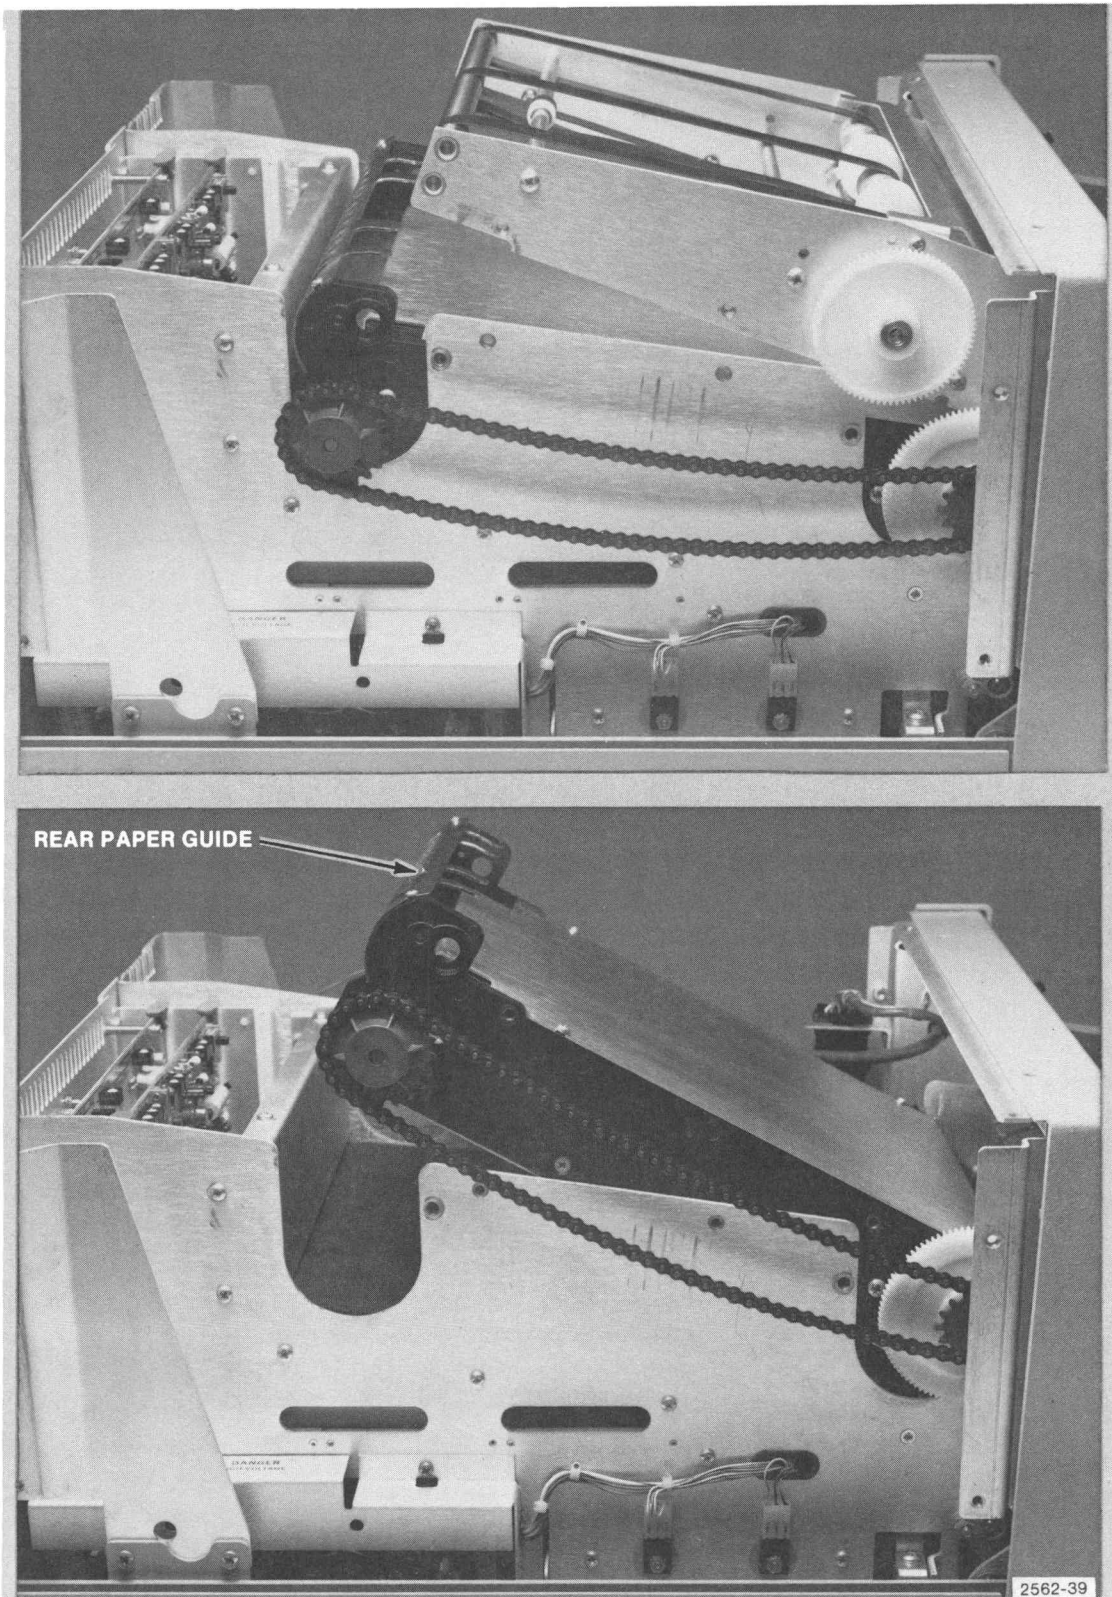

Figure 4-8. Conveyor and Processor Removal.
8. Grasp the processor by the rear paper guide and lift upward and forward (see Figure 4-8).